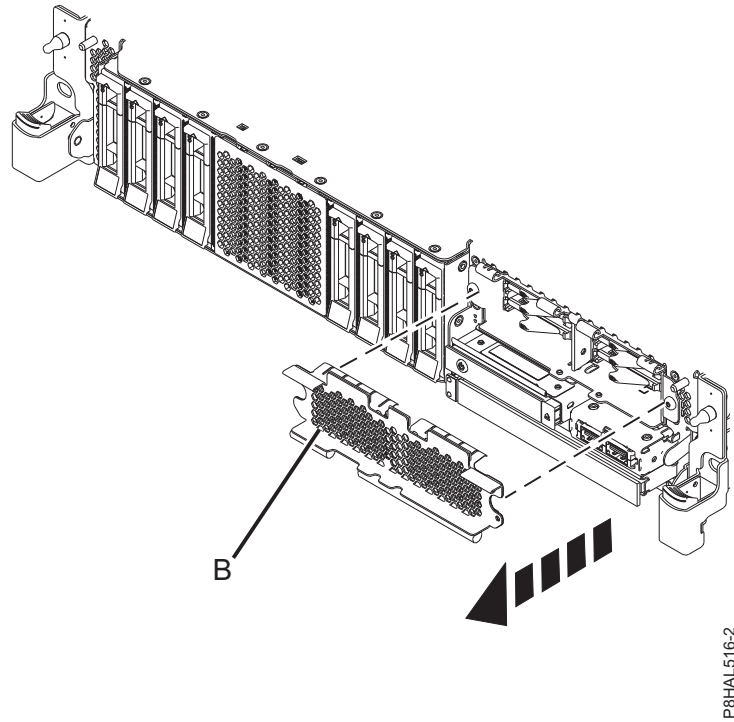

Figure 7. Removing the SSD cage cover to access the SSD slots in an expanded function system
3. To access the SSD slots, remove the perforated plate (**B**) covering the SSD cage as shown in Figure 7 on page 11.